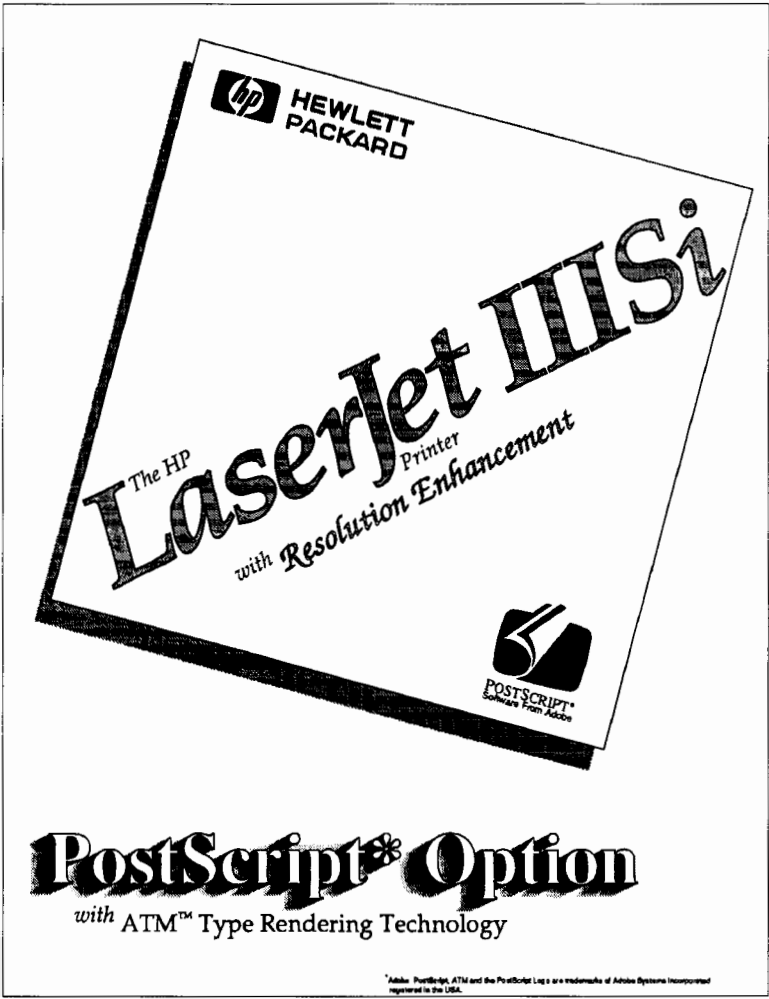

Figure 1-10. Start Page
7. The Start Page should print in about thirty seconds after the printer has warmed up. See Figure 1-10.